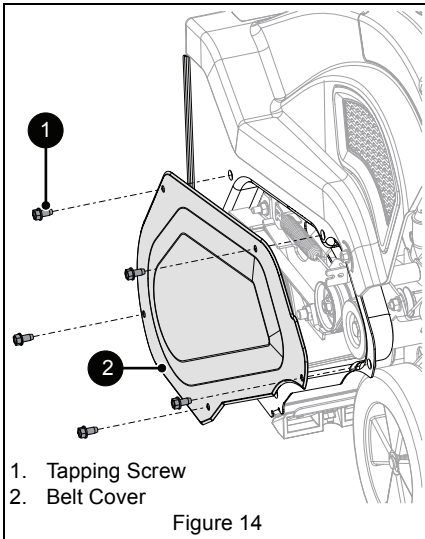

Figure 14
2. Remove five tapping screws from belt cover and remove belt cover. Retain all parts. See Figure 14.